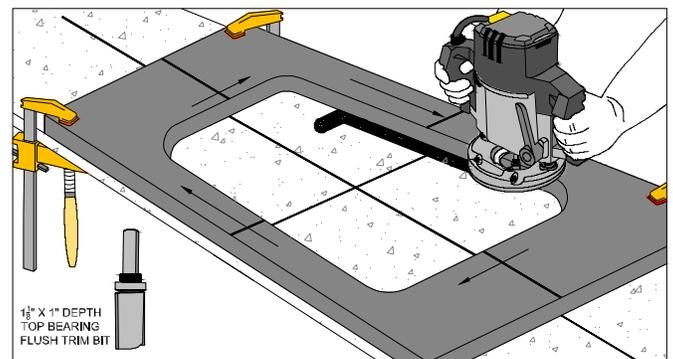

Figure 34B
- Index a 31/4 HP or 21/2 HP plunge router with a 1" x 11/2" top bearing flush trim router bit. (FIG. 34B)
- Route along templates in the direction indicated. (FIG. 34B)